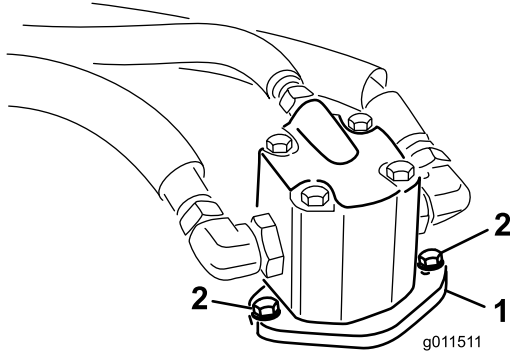

Figure 73
- Remove the bolts securing the hydraulic motor to the mower deck (Figure 73).